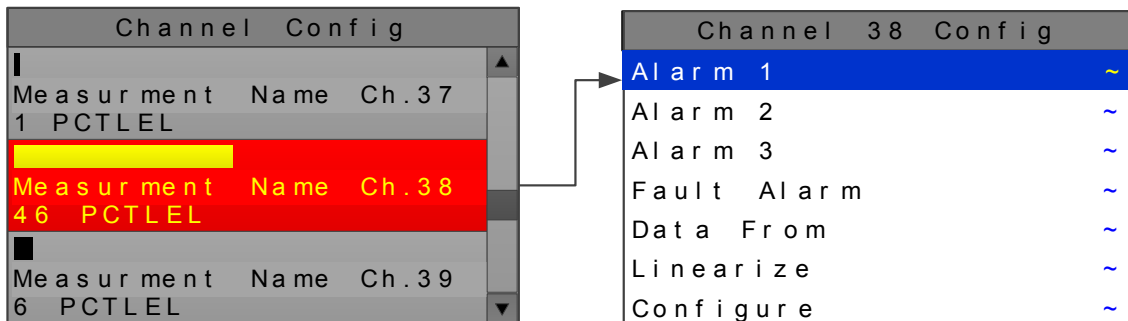

Figure 2-13
**CHANNEL CONFIGURATION** entry menu, show on left in Figure 2-13; use  /